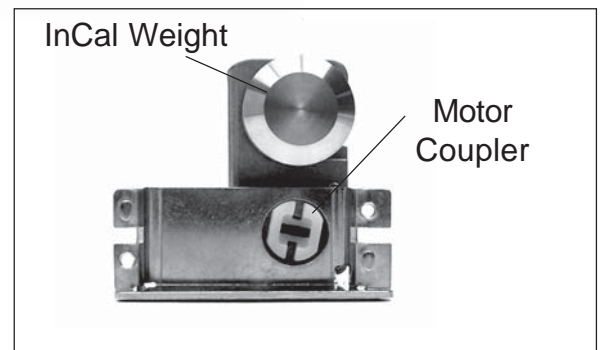

Figure 3-27. Motor Coupler.
2. See Figure 3-27, with InCal Weight in upper most (high) position, the Motor Coupler should be in the position as shown.